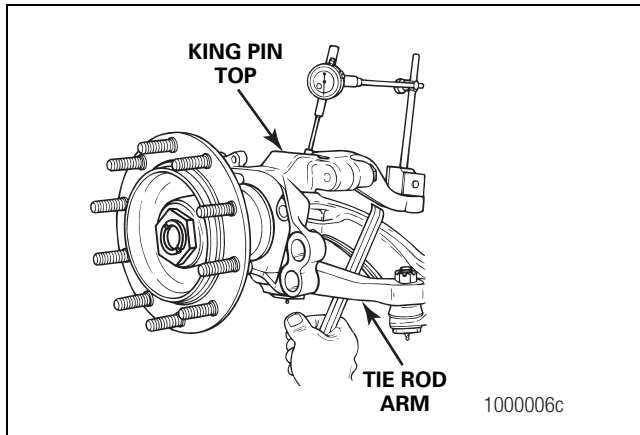

Figure 3.5
- Place a pry bar between the tie rod arm and the axle beam. Figure 3.5.